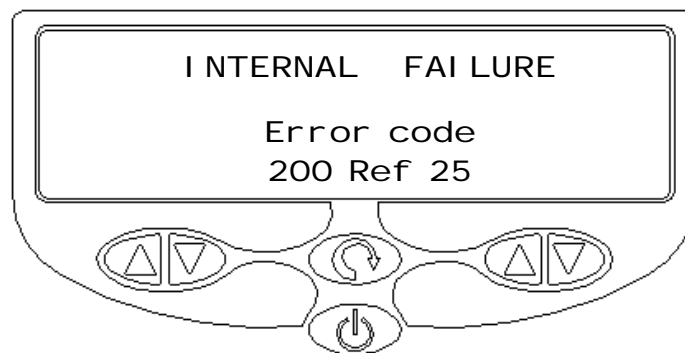

Fig 4.11 Screen for critical error display
**Red Warning Symbol** - Except during the self-test routine and a non-critical failure, illumination of the red warning symbol on the front panel when accompanied by the "ERROR XXX REF XX" symbol (Fig 4.11 Screen for critical error display) on the front panel display indicates a critical failure. In the case of a critical failure, **DO NOT ATTEMPT TO USE THE UNIT**. Please refer to Section 11 for information.